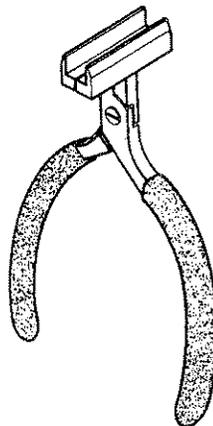

Figure 3-4 — IC Insertion-Extraction Pliers
- Step 1: Use Insertion-Extraction Pliers (such as General Tool's Part Number U505BG, a 28-pin type) to remove the IC. An illustration of the pliers is shown in Figure 3-4.